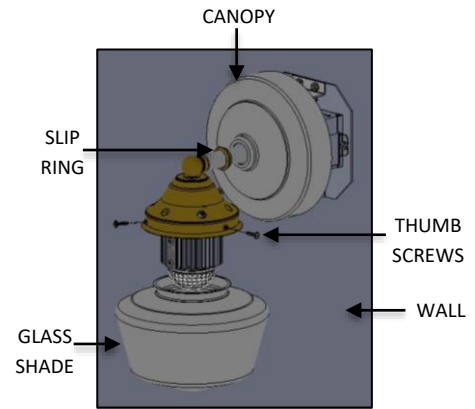

FIG. 10 – FIXTURE BODY INSTALLATION
4. Secure DRIVER PLATE ASSEMBLY & BODY ASSEMBLY with back NUT, WASHER which was removed in setp.1. Slide CANOPY to the wall and secure with SET SCREW (pre-assembled in SLIP RING). Be careful not to scratch the finish of the fixture and Install the GLASS SHADE using the THUMB SCREWS provided as shown below in FIG. 10.